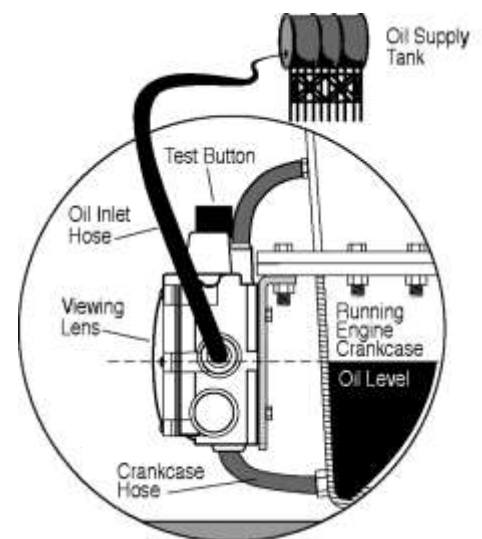

Figure 6
3. Install the 1/2 inch (13 mm) I.D. x 3 ft (914 mm) hose to the vent connection on the LM500 and to vent connection on the crankcase. See Figure 6. **The vent connection on the crankcase must be well above the regulated oil level.** All hoses must be clear of obstructions, valleys, or dips that could create liquid traps, or gas/air pockets. The vent and crankcase connections should be as straight as possible. **BEFORE CONTINUING, VERIFY THAT ALL HOSE CLAMPS ARE TIGHT.**